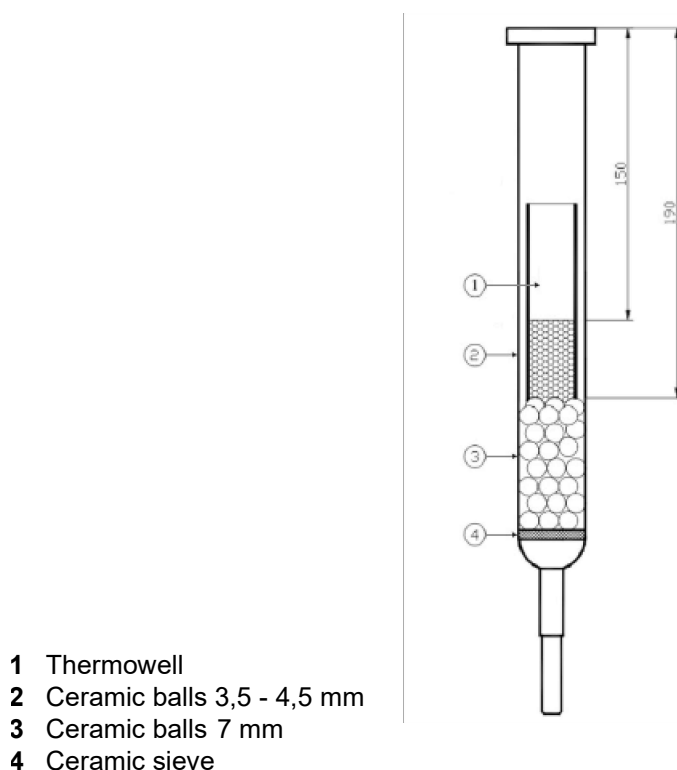

Fig. 104: Reactor filling
3. Place the ceramic sieve (4, Abb. 104, Seite 147) horizontally on the taper of the reactor tube or let it fall into the reactor tube.
5. Carefully insert the protective tube (1) from above into the reactor tube.
The reactor tube filling shown in Abb. 104, Seite 147 is an excellent solution for the majority of applications.